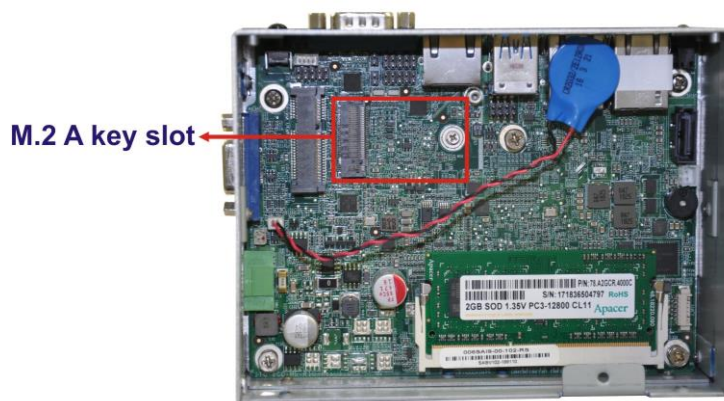

Figure 3-7: M.2 A key Slot Location
Step 3: Locate the M.2 A key slot. Remove the on-board retention screw. (**Figure 3-7**)